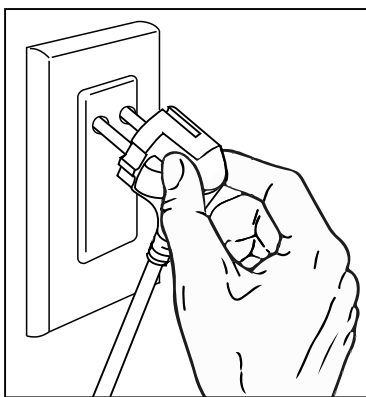

figure 1
1. Plug-in the sander's AC power cord to the power source (220-240V a.c. output). The warning "beep" sounds would be occurred after the plug is securely plug-in to the power source and the LED indicator shows "Solid Red" color at the moment.- see figure 1.